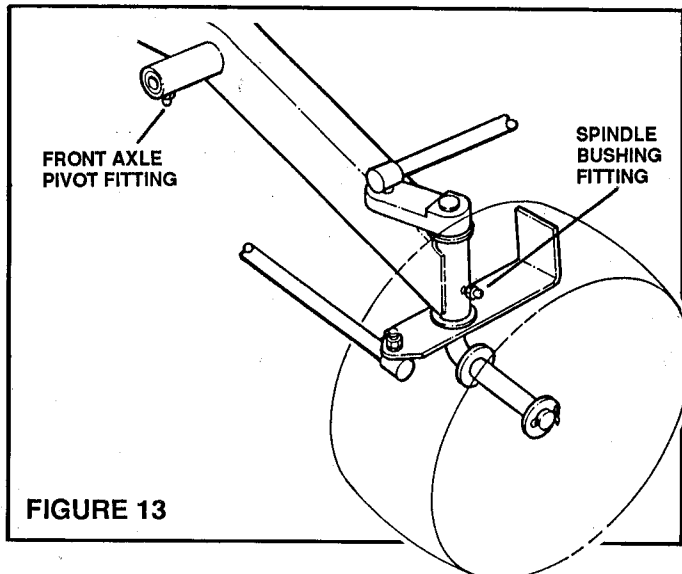

FIGURE 13
- **FRONT AXLE PIVOT & SPINDLE BUSHINGS:** Lubricate the center pivot fitting on underside of the front axle and each spindle fitting located on rear of front axle (toward operator). See Figure 13.